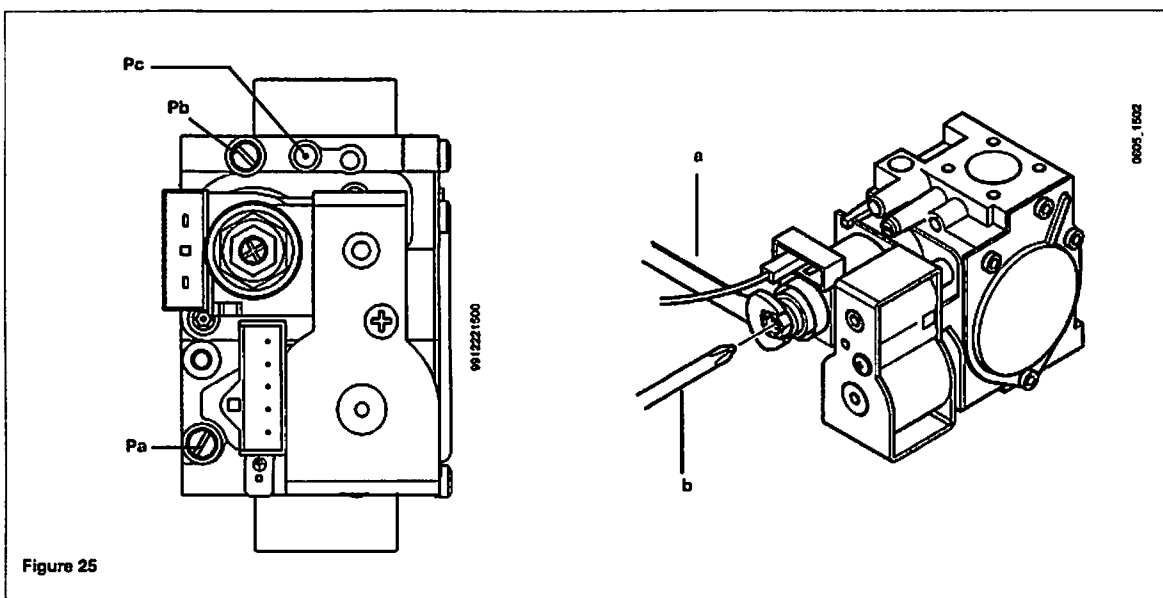

Figure 25
- 2 Loosen the gas inlet pressure test point screw on the gas valve (see Fig. 25). Ensure the gas supply is on and open the boiler service cock to purge.
A Qualified Service Engineer may adapt this boiler to operate with natural gas (A) or with LP gas (E). The procedure for calibrating the pressure regulator may vary according to the type of gas valve fitted (HONEYWELL or SIT; see figure 25).
C) Pressure adjusting device setting (see Figure 25)